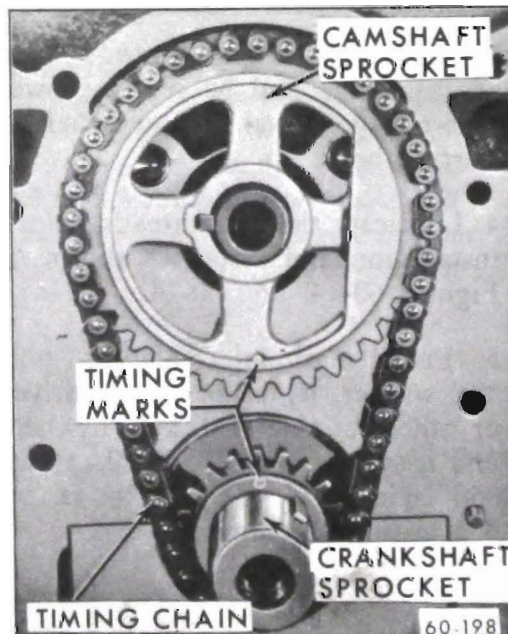

Figure 60-243--Installation of Timing Chain and Sprocket -350 Cu. In.
350 Cu. In. 1. With timing chain cover removed (subpar. a above) temporarily install crankshaft pulley bolt and washer in end of crankshaft. Turn crankshaft so sprockets are positioned as shown in Figure 60-243. Remove harmonic balancer bolt and washer using a sharp blow on the wrench handle, so that the bolt can be started out without changing position of sprockets.
2. Turn camshaft so with sprocket temporarily installed, timing mark is straight down. See Figure 60-243. Remove Sprocket.
3. Assemble timing chain on sprockets and slide the sprocket and chain assembly on the shafts with the timing marks in their closest together position and in line with the sprocket hubs. See Figure 60-243.